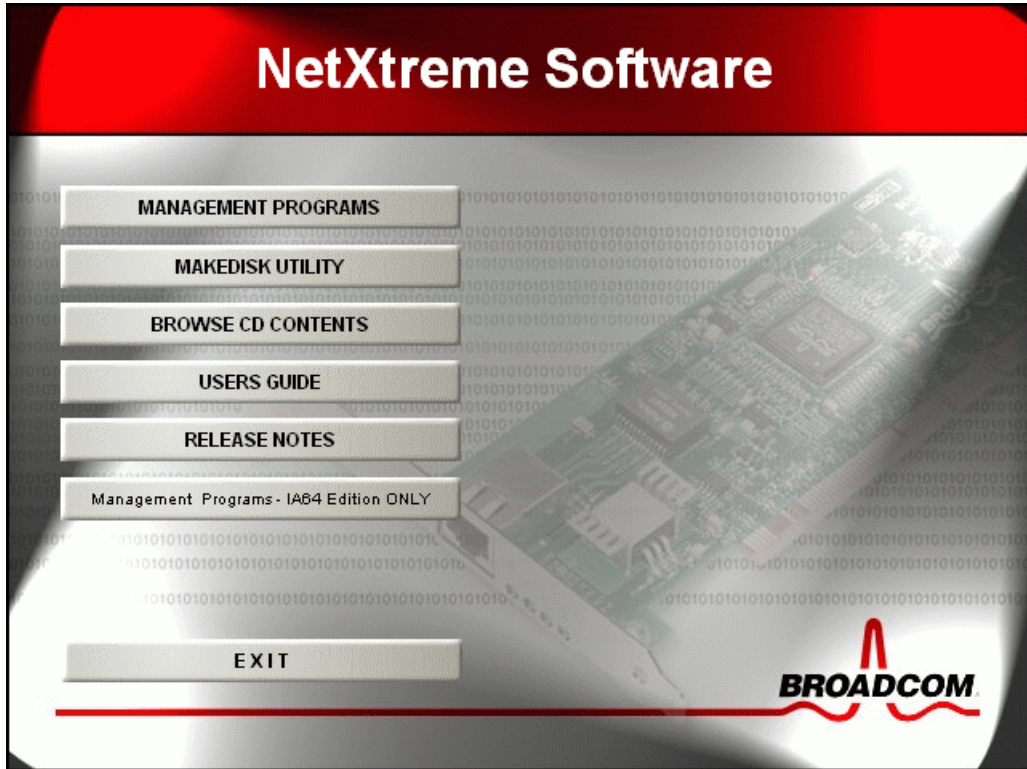

Figure 6-7 Broadcom selection window
1. Navigate to the location where the Broadcom Advanced Control Suite application files were extracted (default C:\Drivers\BcomXXX, where XXX is the code level). Execute Launch.exe. You see a window similar to the one shown in Figure 6-7 on page 54.